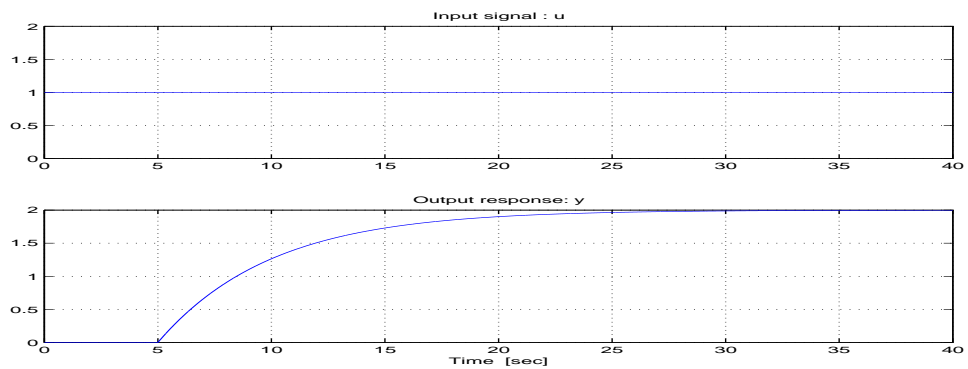

Figure 1: Time response of dynamic system from input u to output y .
- Given the input and output transient responses, $u = u(t)$ and $y = y(t)$ respectively, as illustrated in Figure 1. Propose the structure of the corresponding transfer function $h_p(s)$?